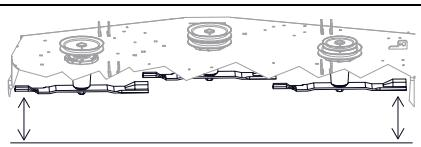

Figure 67
- Raise deck to 8.9 cm (3.5") cutting height. See Figure 67.